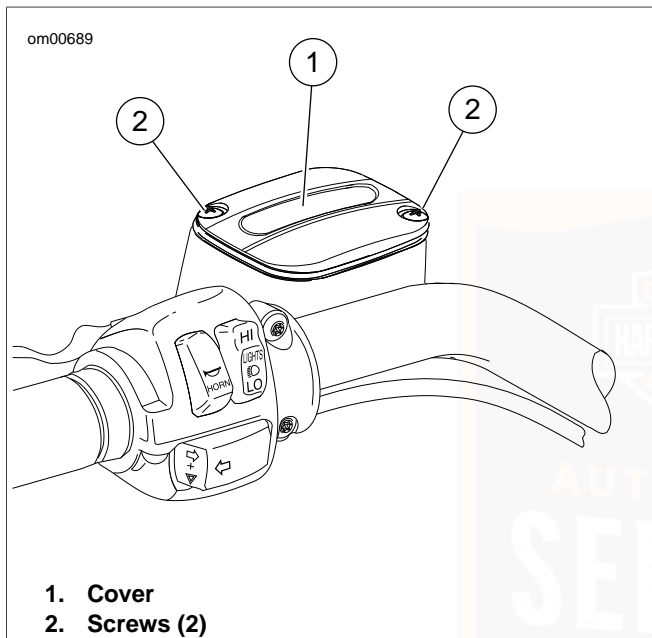

Figure 34. Clutch Master Cylinder Reservoir
2. See Figure 34. Clean all dirt and debris from the clutch master cylinder cover (1). Remove the two clutch master cylinder cover screws (2) and remove the cover.